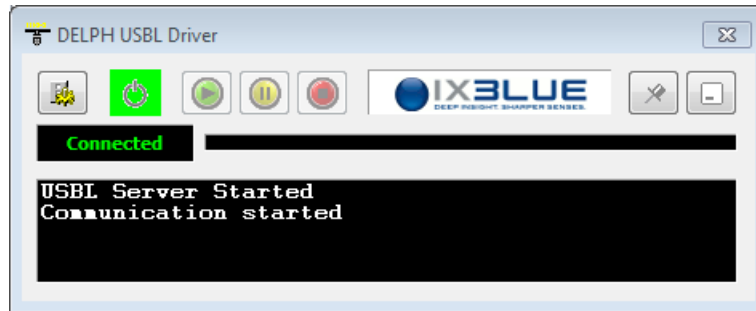

Figure 45 – DELPH USBL driver
The USBL positions (real-time data flow or logged data file) are read by DELPH RoadMap via DELPH USBL driver (see Figure 45). DELPH USBL driver is accessible from DELPH RoadMap application.
1.	In DELPH RoadMap main window, select the menu USBL > USBL Driver... The window of the DELPH USBL Driver opens. See Figure 45.
The window of the DELPH USBL Driver opens. See Figure 45.